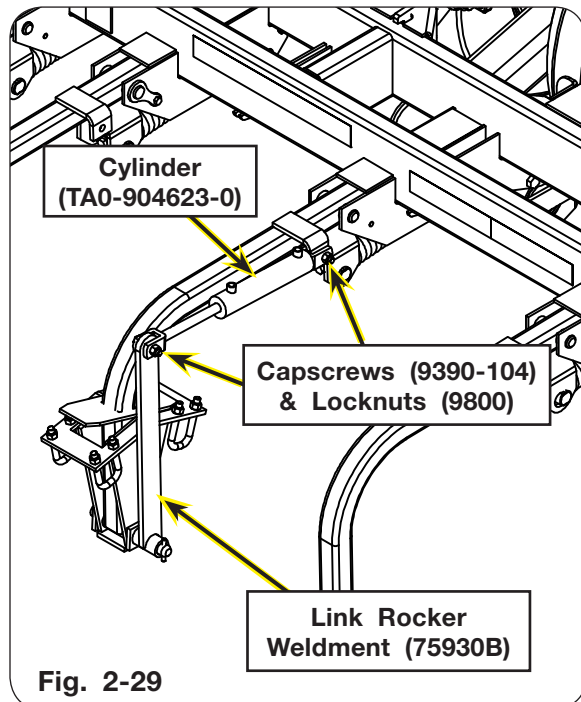

Fig. 2-29
1. In parts box (75859B) locate three 1 1/2" x 6" cylinders (TA0-904623-0), three 1/2"-13UNC x 2 1/4" capscrews (9390-104) and three 1/2"-13UNC locknuts (9800). Install base end of cylinder with ports facing up to the mounting bracket of the basket rocker arms using capscrews and locknuts. See Fig. 2-29.
2. In parts box (75859B) locate three 1/2"-13UNC x 2 1/4" capscrews (9390-104) and three 1/2"-13UNC locknuts (9800). Attach the rod end of the cylinders to the link rocker weldment using capscrews and locknuts. See Fig. 2-29.